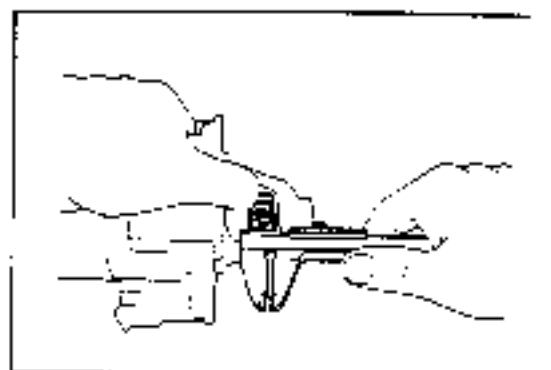

Fig. 10-40
- (1) Connect the tie d coil lead to the terminal C. Make sure that the lead is not grounded.
- (2) Connect the battery and ammeter to the starter as shown in Fig. 10-40
- (3) Ensure that the starter rotates smoothly and steadily with the pinion moving out.
- (4) Ensure that the ammeter registers the specified current.